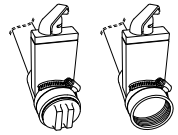

Figure 13.2g
3. Unscrew drain valve cap, Figure 13.2g. Place the cap aside.